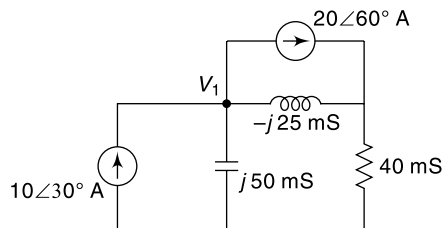

Fig. 14.84
14.97 Using superposition theorem determine the value of V_1 (in Fig. 14.84).